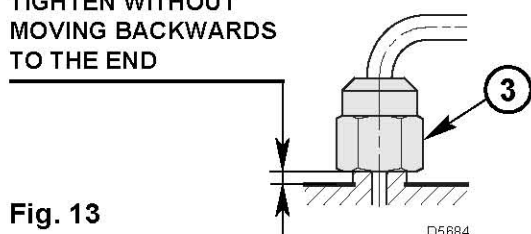

Fig. 13
- During the reassembly of the nozzle-holder assembly screw the nut (3) as shown in the fig. 13.
- In order to guarantee the sealing of the fan in its seat, make sure that there is at least 1 mm of spring tension between nozzle-holder assembly and casing. Therefore the fixing split pin (11) will have to be extended at least of 1 mm beyond the flange of the nozzle-holder assembly.